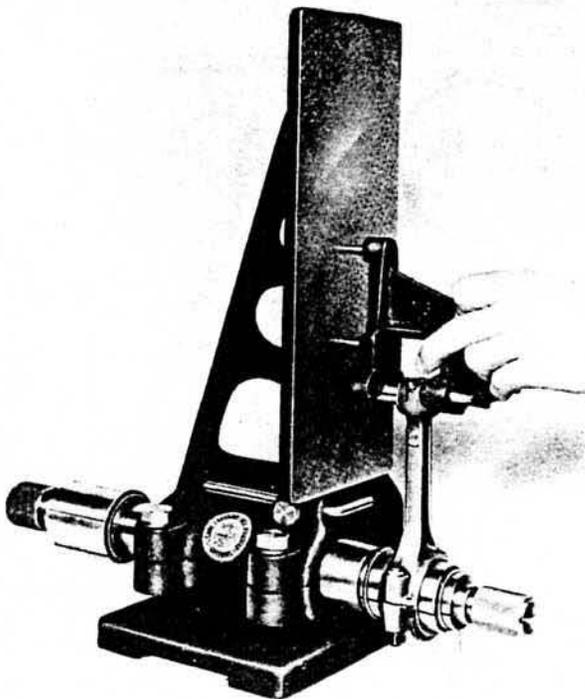

Fig 28. Checking straightness
1. Fit the cap and attach the connecting rod in the tool with the expander. Fit the gudgeon pin which belongs to the connecting rod. Check straightness when the indicator is placed on the gudgeon pin as shown in Fig. 28.